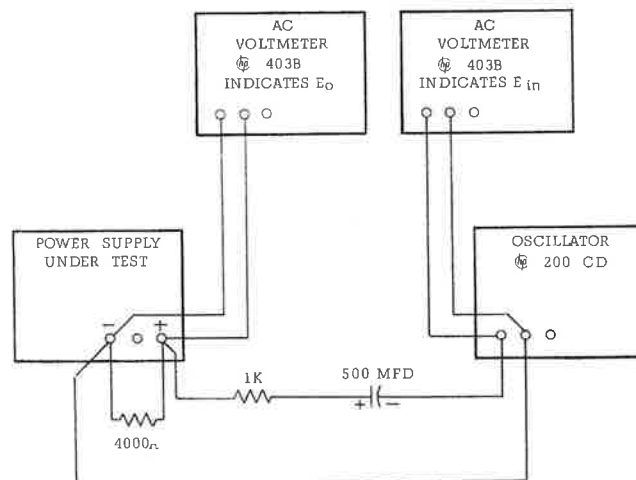

Figure 5-3. Output Impedance, Test Setup Diagram
- a. Connect test setup shown in Figure 5-3.